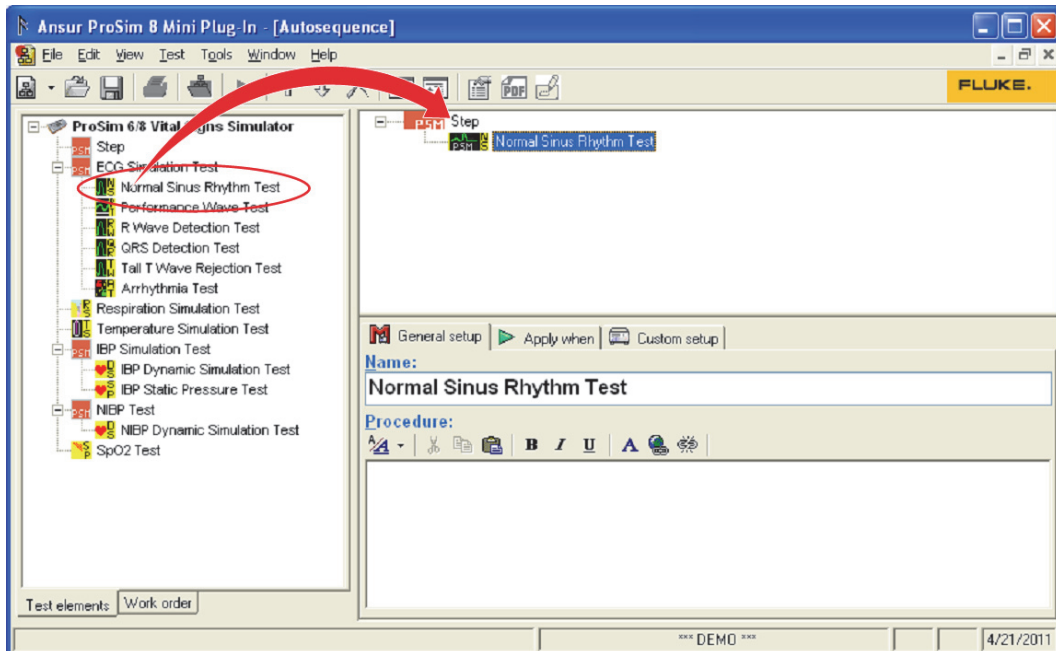

Figure 5-13. Add a Test Element to a Step Container
- Pull a test element from the explorer window to the step container icon in the autosequence window. Figure 5-13 shows the Normal Sinus Rhythm Test element placed into the step container.